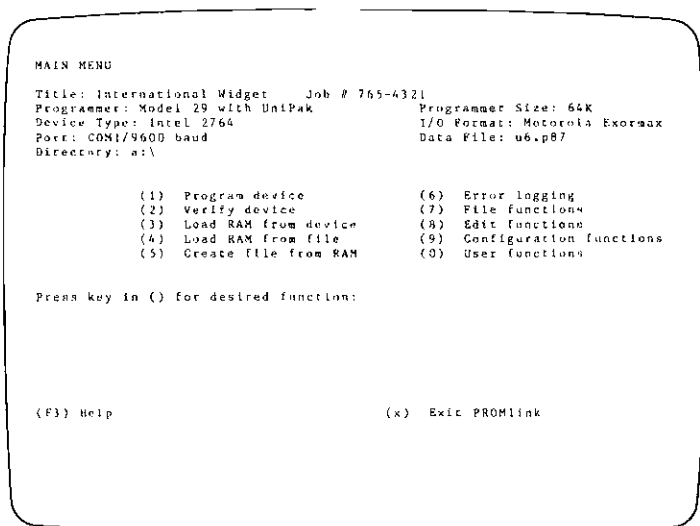

Figure 3-2. Main Menu
Most of the PROMlink screens and menus present the system status and a menu. PROMlink prompts you for a response to perform an operation or select another menu. Figure 3-2 shows a sample menu and the components of it. The system status area appears across the top of the display. Messages and prompts appear below the status area of the display.
When you first start PROMlink, the set of internal system status values shown in figure 3-2 is displayed. PROMlink accesses these values from a "Configuration File" called *INIT.CFN* that is on the PROMlink disk. You may create your own configuration file by using the *Save Configuration (0)* command from the *Configuration Functions* menu. The new configuration can then be reloaded at a later time with the *Load Configuration (9)* command from the *Configuration Functions* menu. This allows you to set up programming sessions quickly. If you name your configuration file *INIT.CFN* then PROMlink will automatically load that configuration at start up.
If this file has been erased or for any other reason does not exist, the PROMlink program uses its own internal set of status values. INIT.CFN default values are shown in figure 3-2. The contents of INIT.CFN and all configuration files are described in appendix B.1.